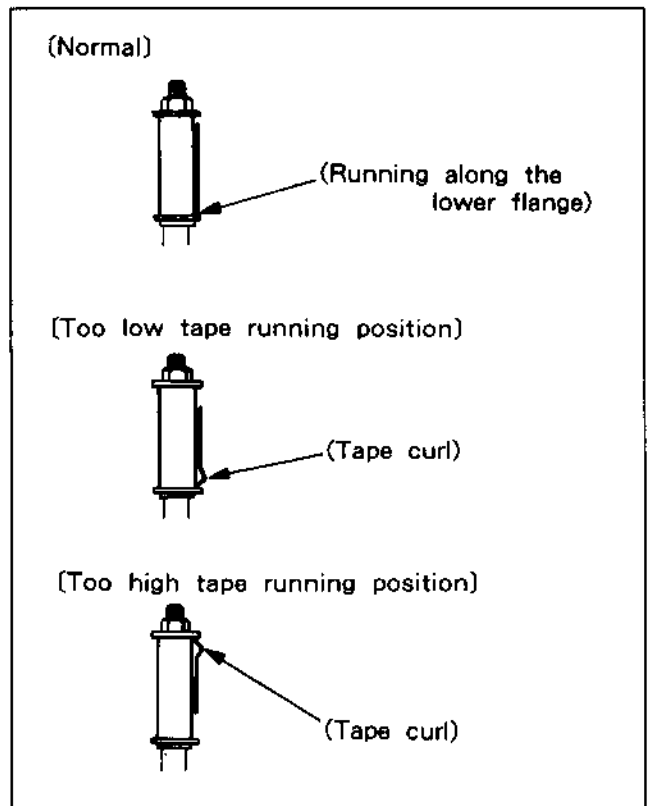

Fig. 5-4-6. Fixed Guide (T)
5-4-5. TAPE PATH CHECK OF EXIT SIDE FIXED GUID (T) (See Fig. 5-4-6.)